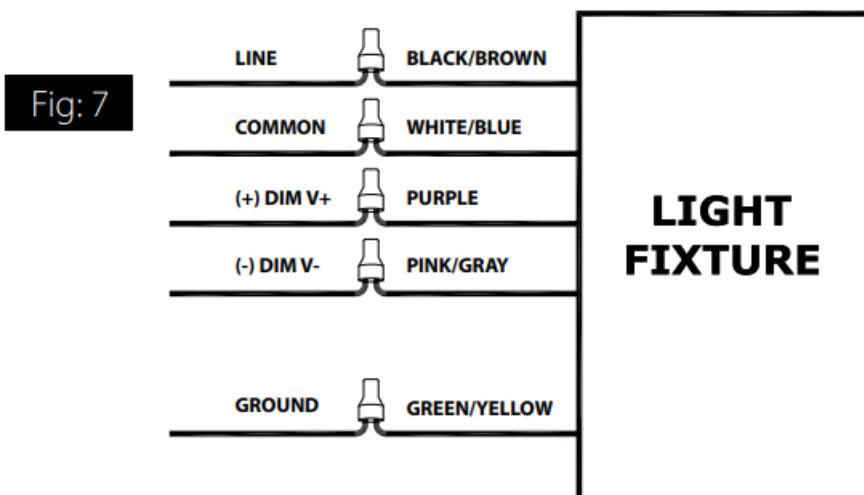

Fig: 7
2. Make appropriate wire connections per NEC in an approved enclosure (not included) see Fig. 7.
3. Loosen the Locking Bolts (4) and swivel Fixture to desired angle.
4. Tighten the Locking Bolts (4).
Universal voltage driver permits operation at 120V thru 277V, 50 or 60 Hz. For 0-10 Dimming, follow the wiring directions as shown in Fig. 7.